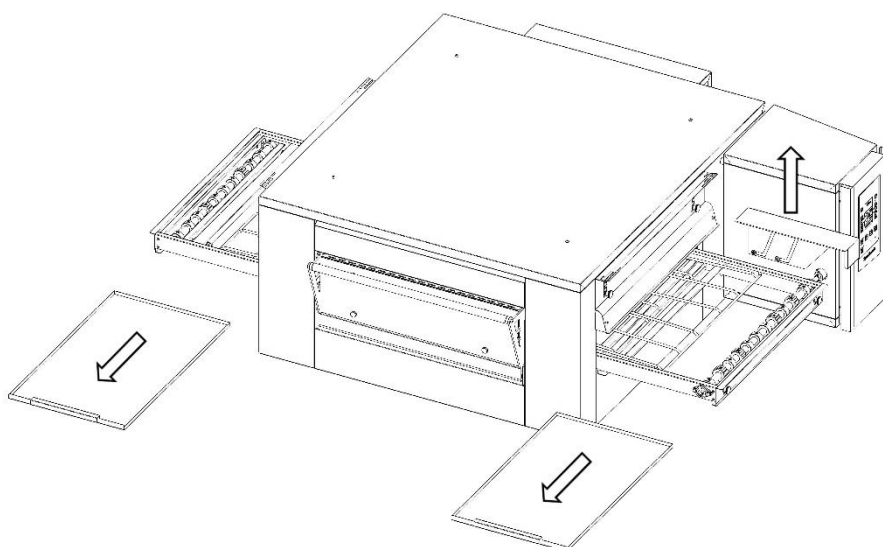

Fig.1A
2. Remove the drawers at the entrance and exit of the wire mesh conveyor belt (Fig.1A).
3. Remove the casing joint moving it upwards (Fig.1A).